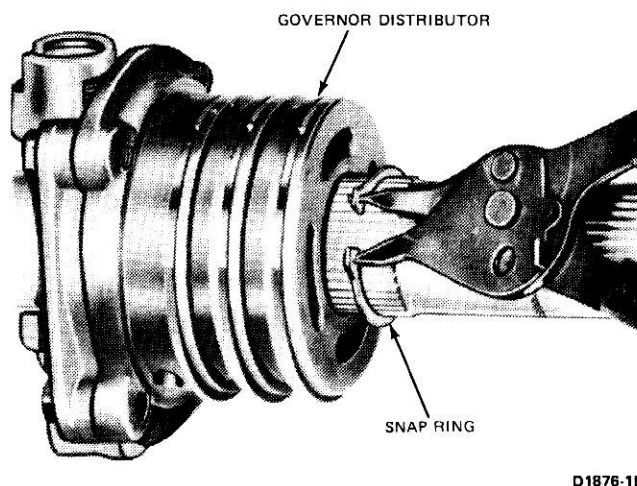

FIG. 31 Removing or Installing Governor Distributor Snap Ring
7. Install the governor distributor assembly on the output shaft. Install the distributor snap ring (Fig. 31).